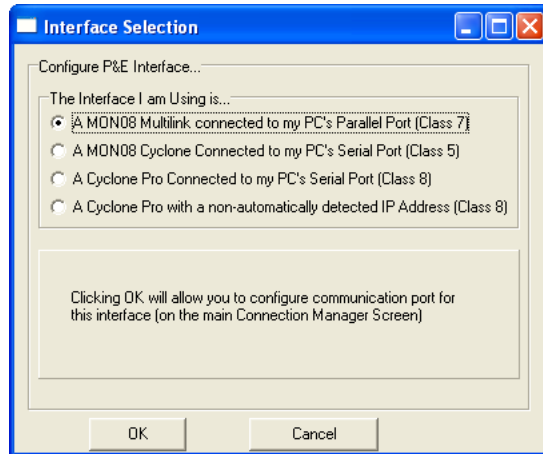

Figure 7-12: P&E Multilink/Cyclone Pro Manual Interface Selection
5. To add a serial/parallel port P&E device such as Cyclone Pro Serial, MON08 Multilink and Cyclone Pro Ethernet (IP outside of subnet mask), proceed to the Interface Selection Manager by pressing the “Add A Connection” button. See **Figure 7-12**. For more information about configuring Cyclone Pro for ethernet operation, please see the Cyclone Pro User's Manual.